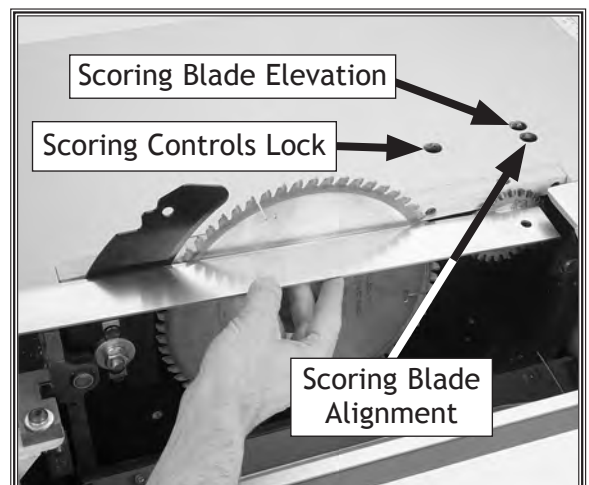

Figure 38. Access holes for scoring blade adjustment controls.
- The scoring blade alignment can be changed by adjusting the set screws accessible through the table top (see **Figure 38** or refer to **Page 42**).